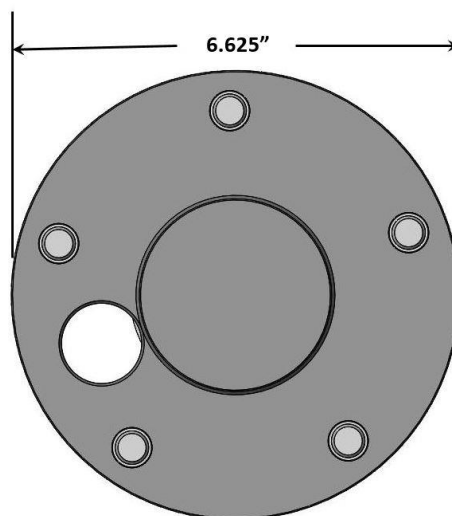

Figure 1 – Measuring the Axle Flange
4. The outer diameter of the axle flange can be no larger than 6.625" in outside diameter. This is critical for proper fitment of the rotor over the axle flange. For axles with a flange larger than 6.625", using a lathe, machine the outer flange down to the necessary diameter of 6.625". See Figure 1 below for measuring reference.